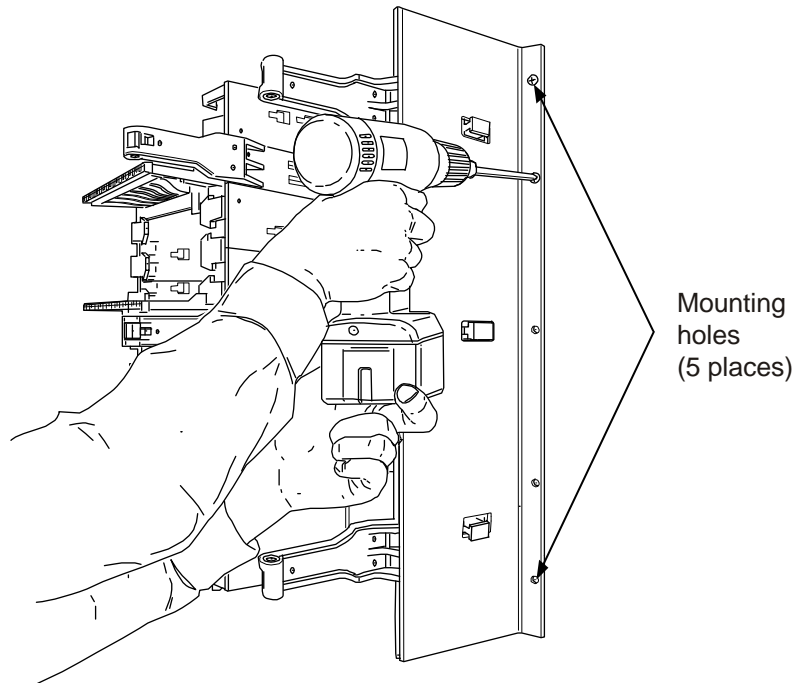

Figure 4. Secure Panel to Wall
4. Secure the panel to the wall using five No. 8 drywall screws (not included) as shown in Figure 4.